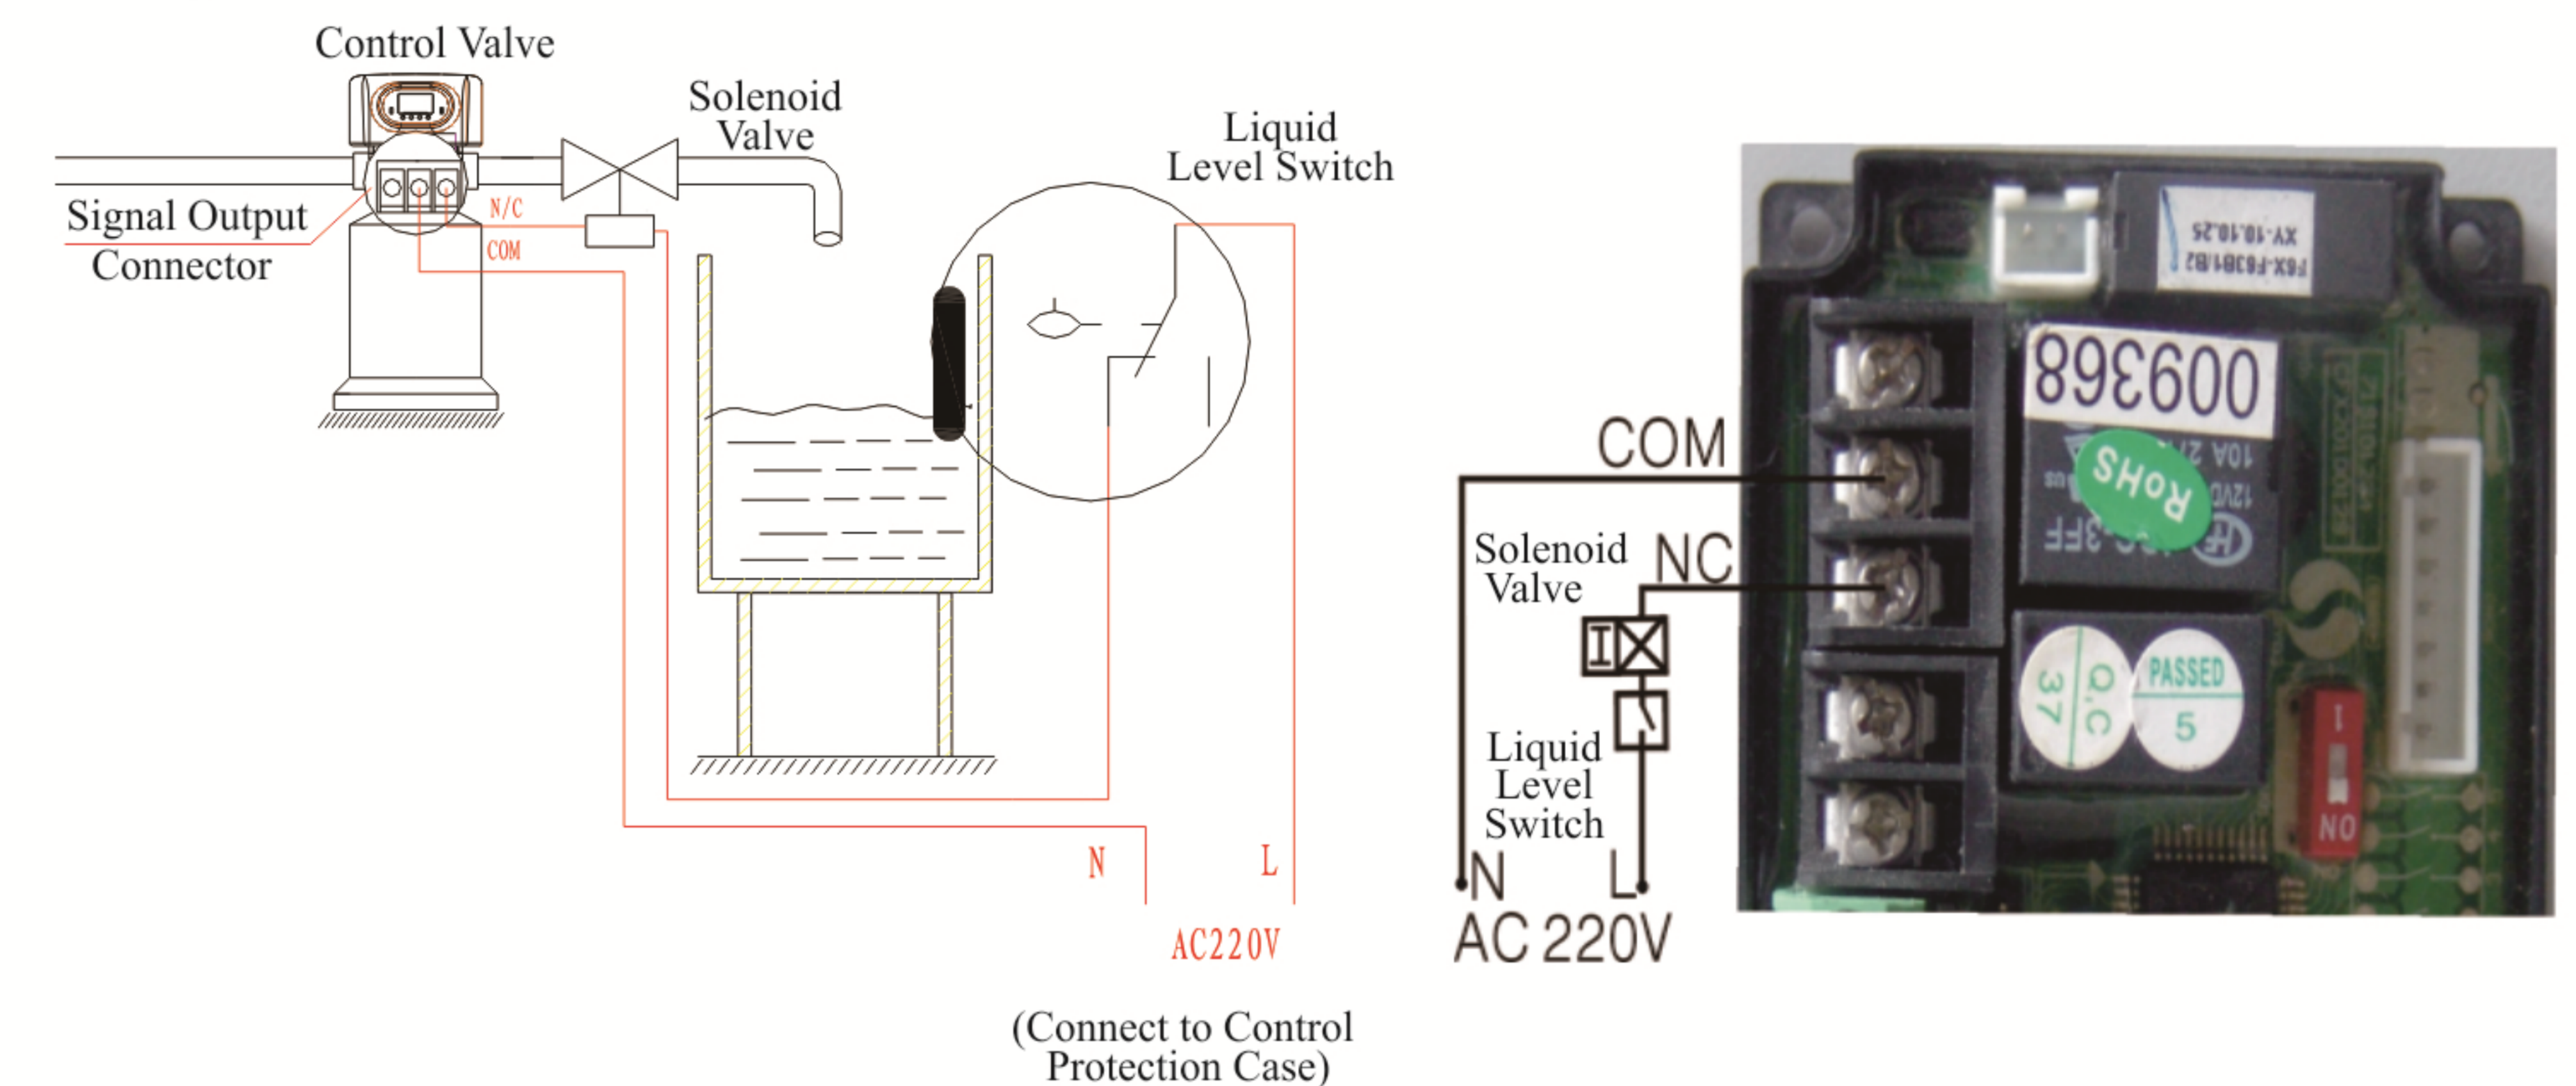

Figure 3-2 Wiring of Outlet Solenoid Valve
① Solenoid Valve on Outlet Controls Water Level in Water Tank.
**Instruction:** If system strictly requires no hard water flowing from outlet in regeneration cycle (Mainly for no hard water flows out when valve is switching or valve in backwash or brine drawing positions), a solenoid valve could be installed on outlet, the wiring refers to Figure 3-2.